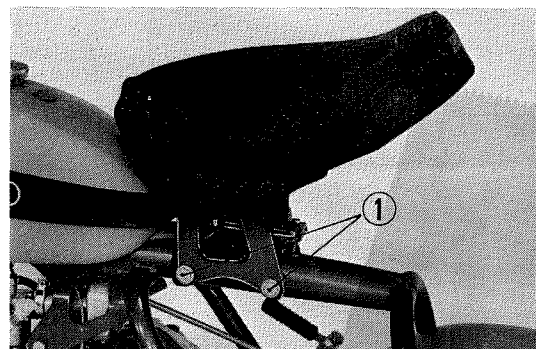

Fig. 72 Seat removal
3. Unscrew two 8 mm nut to remove the seat. (Fig. 72)